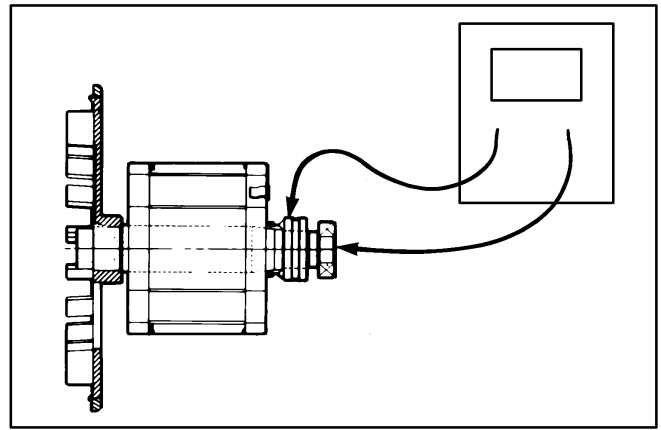

FIGURE 73. ROTOR INSULATION RESISTANCE
**Testing for a Grounded Winding:** A digital ohmmeter is recommended for this test. Select the highest resistance scale on the meter and touch one test probe to the rotor shaft and the other to either slip ring as shown in Figure 73. Replace the rotor assembly if the meter does not indicate an open circuit to ground (the same high resistance as when the meter probes are separated by an air gap).